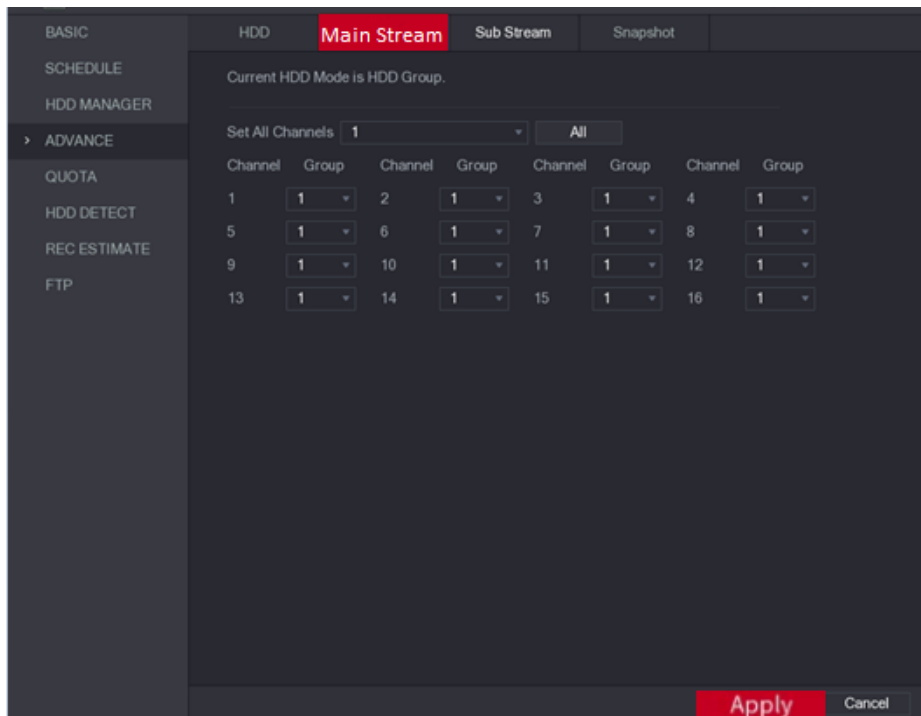
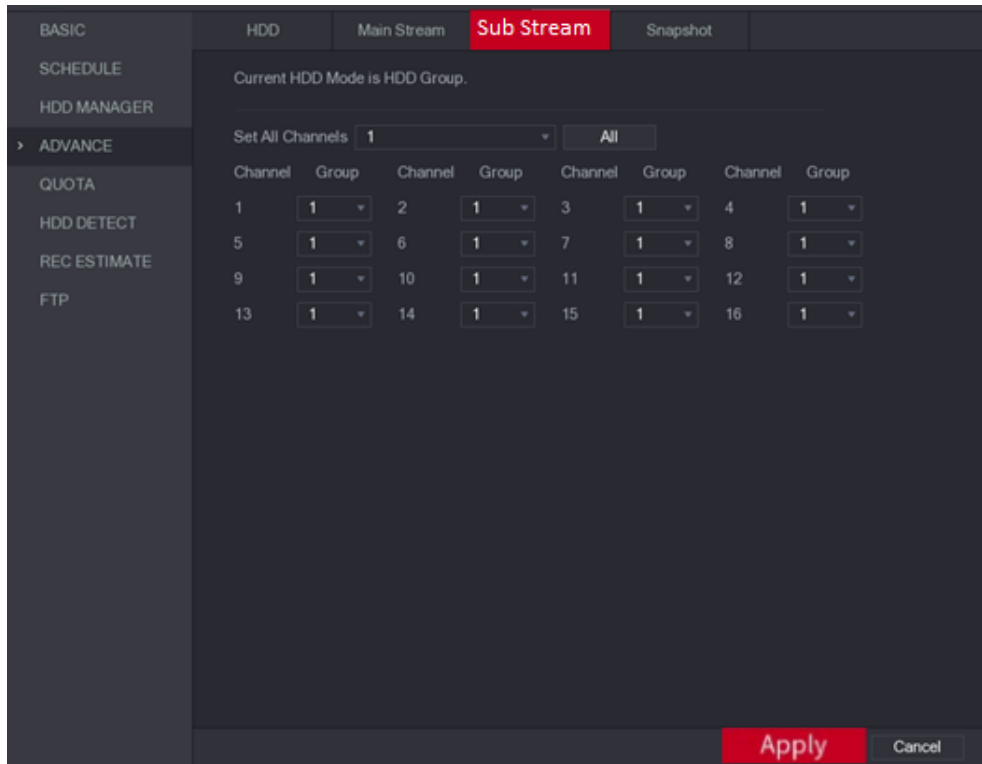
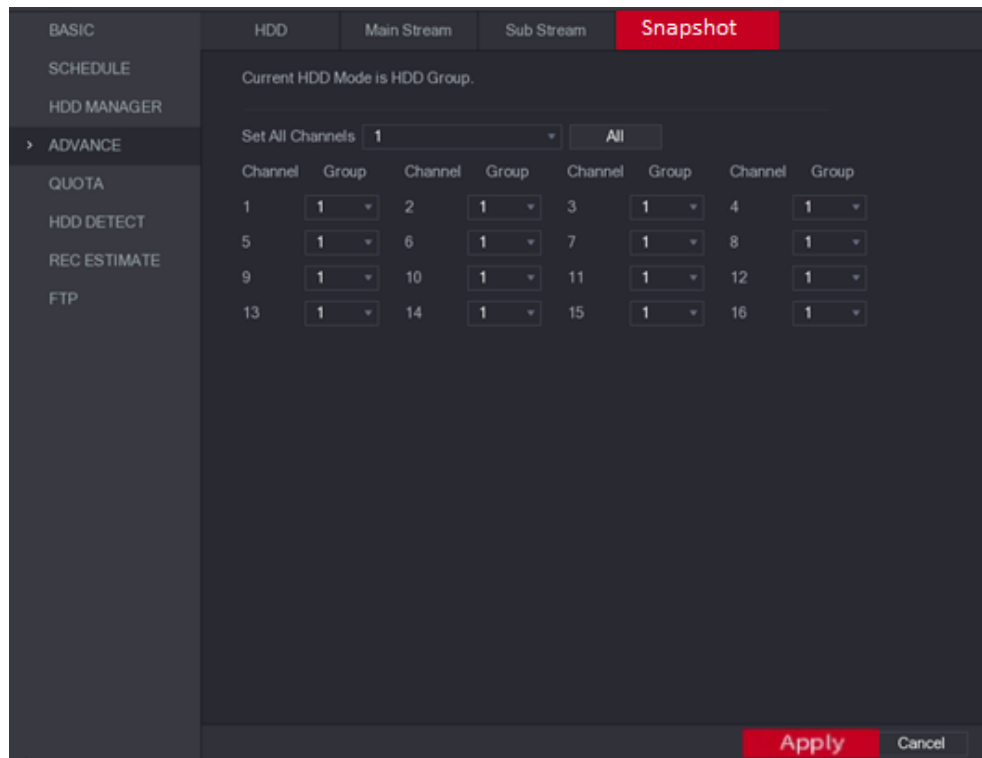

Figure 5-206
Figure 5-207
Figure 5-208
**Step 3** After configuring HDD group, under the **Main Stream** tab, **Sub Stream** tab and **Snapshot** tab, configure settings to save the main stream, sub stream and snapshot to different HDD group as selected by you. See Figure 5-206, Figure 5-207, and Figure 5-208.